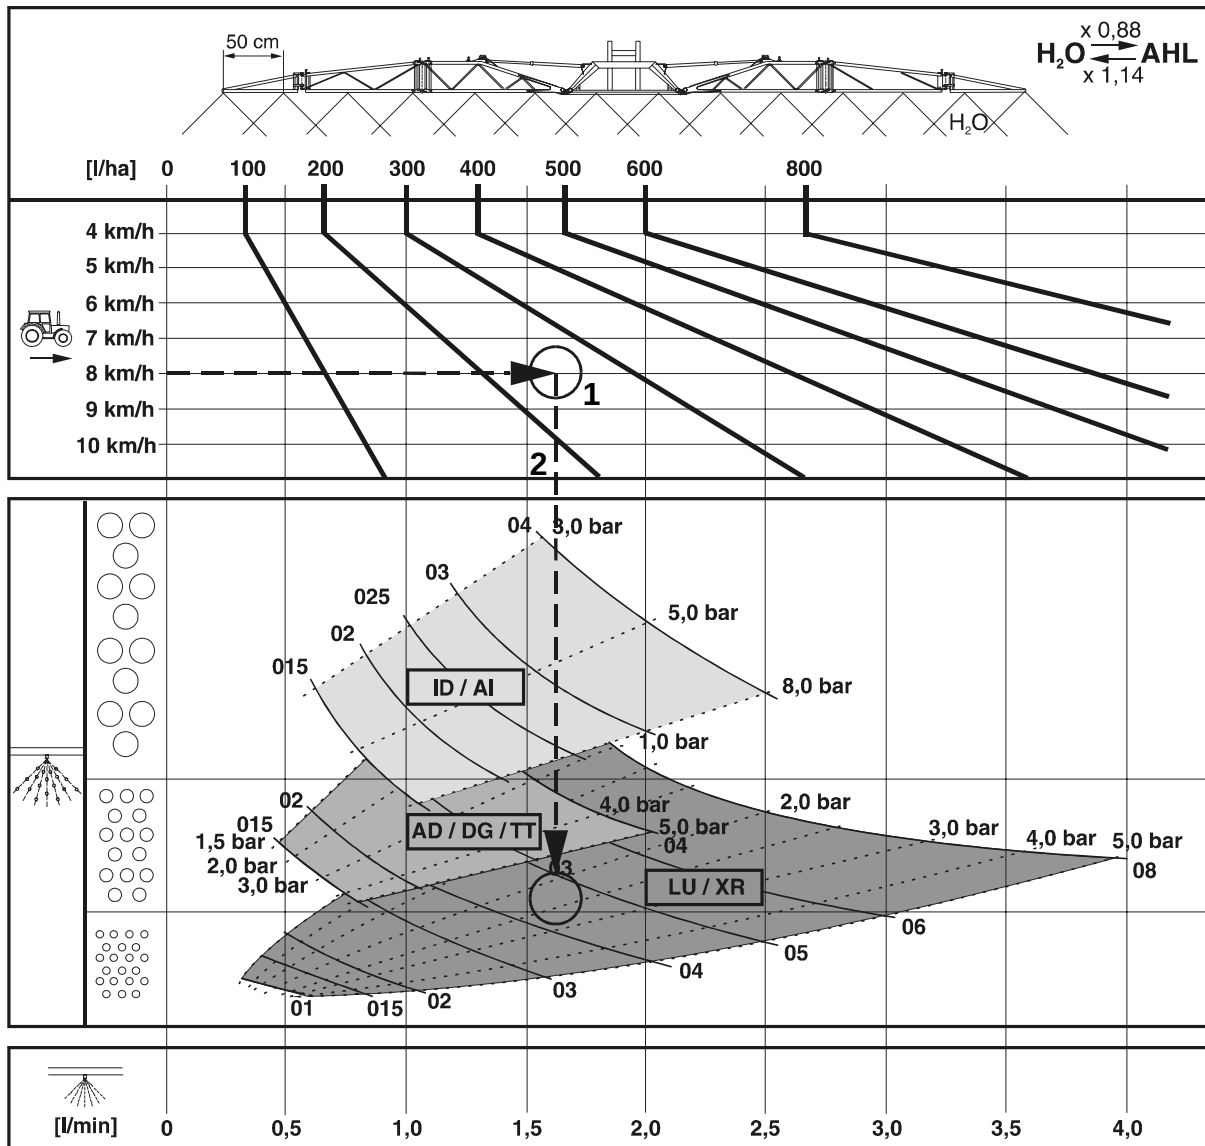

Fig. 127
- The Fig. 127 serves for selecting the correct nozzle type. The nozzle type is determined by
1. Determine the operational point (Fig. 127/1) for the required spray rate (**250 l/ha**) and the intended forward speed (**8 km/h**).
2. Plump at the operational point (Fig. 127/1) a vertical line (Fig. 127/2) downwards. Depending on the position of the operational point this line crosses the input/output maps of the different nozzle types.